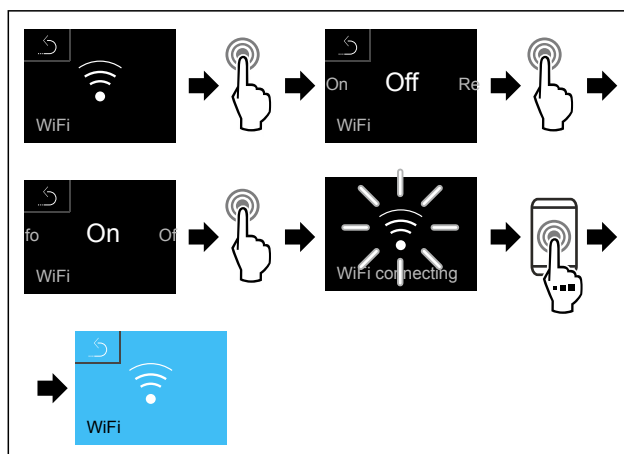

Fig. 96
- ▶ Complete the steps (see Fig. 96) .